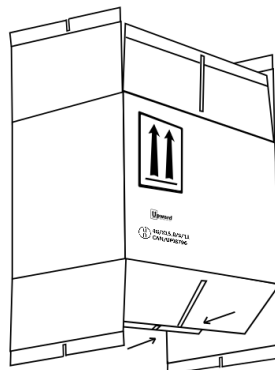

Figure 1
1. Tuck the bottom flaps (long edge first) up to form the bottom of the box. (See Figures 1 & 2)